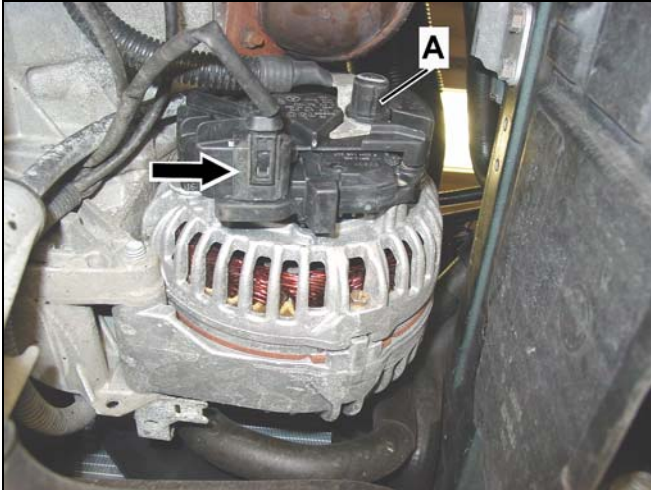

Figure 11
- Disconnect circuit 61 harness connector (arrow, Figure 11) from regulator.